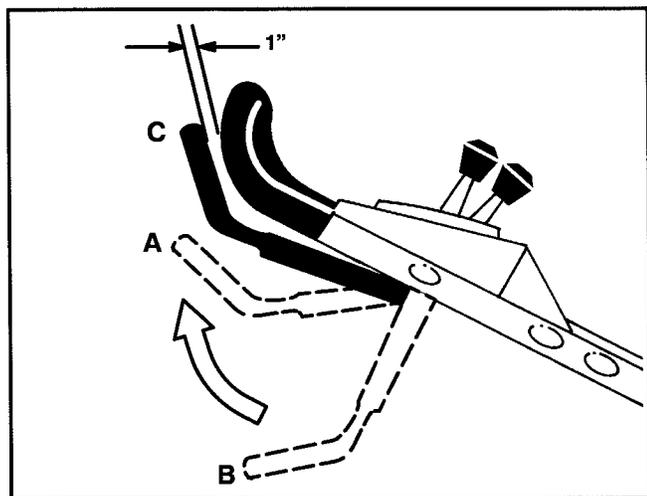

Figure 14
3. Lift the control bar to the normal "blade engaged" position (about 1" below the handle cross bar) (Fig. 14, position C). The "fan" noise and inflation of the bag indicate that the mower blade is turning.
4. Release the control bar (Fig. 14, position A). A "bang" should be heard, the bag should deflate, and the blade should stop within 3 seconds. If the blade does not stop within 3 seconds when the control bar is released in this operational mode, stop using the mower and do not use it until you have it serviced by an Authorized TORO Service Dealer.